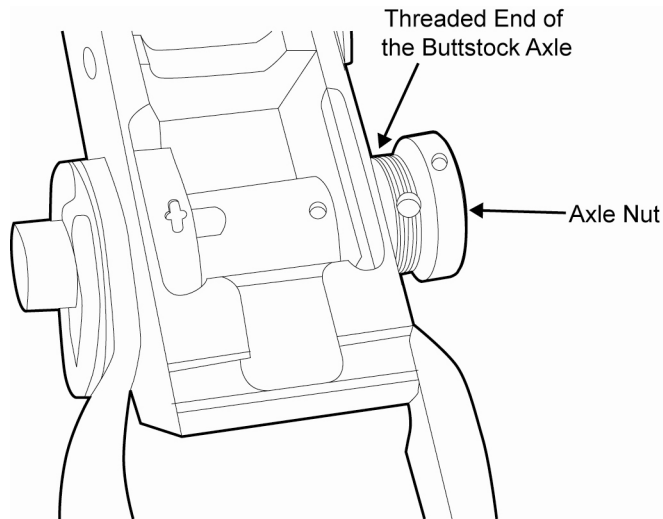

Figure 46. Screwing the Axle Nut onto the Threaded End of the Buttstock Axle.
- c. Screw the axle nut onto the buttstock axle. Ensure that the pin holes of the buttstock axle and axle nut are aligned. Refer to Figure 46.